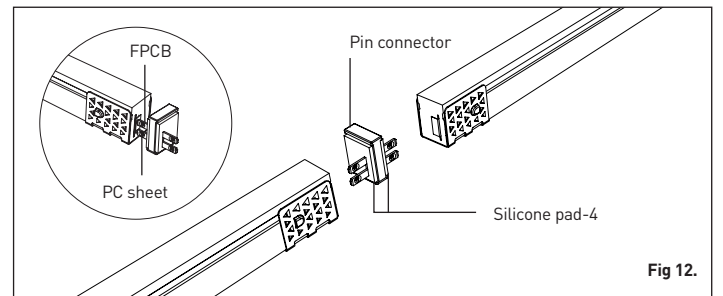

Fig 12.
3. Insert connector plugs so the pins are in contact with strip copper pads (Fig 12).